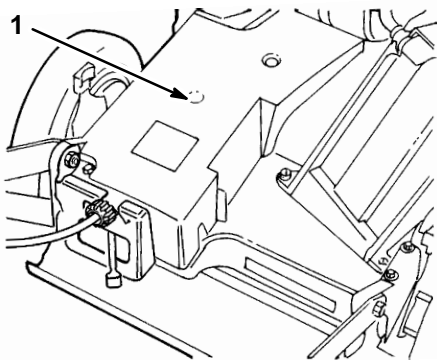

Figure 32
1. Install grease gun onto fitting through belt cover opening (Fig. 32). Gently apply 1-2 pumps of grease.